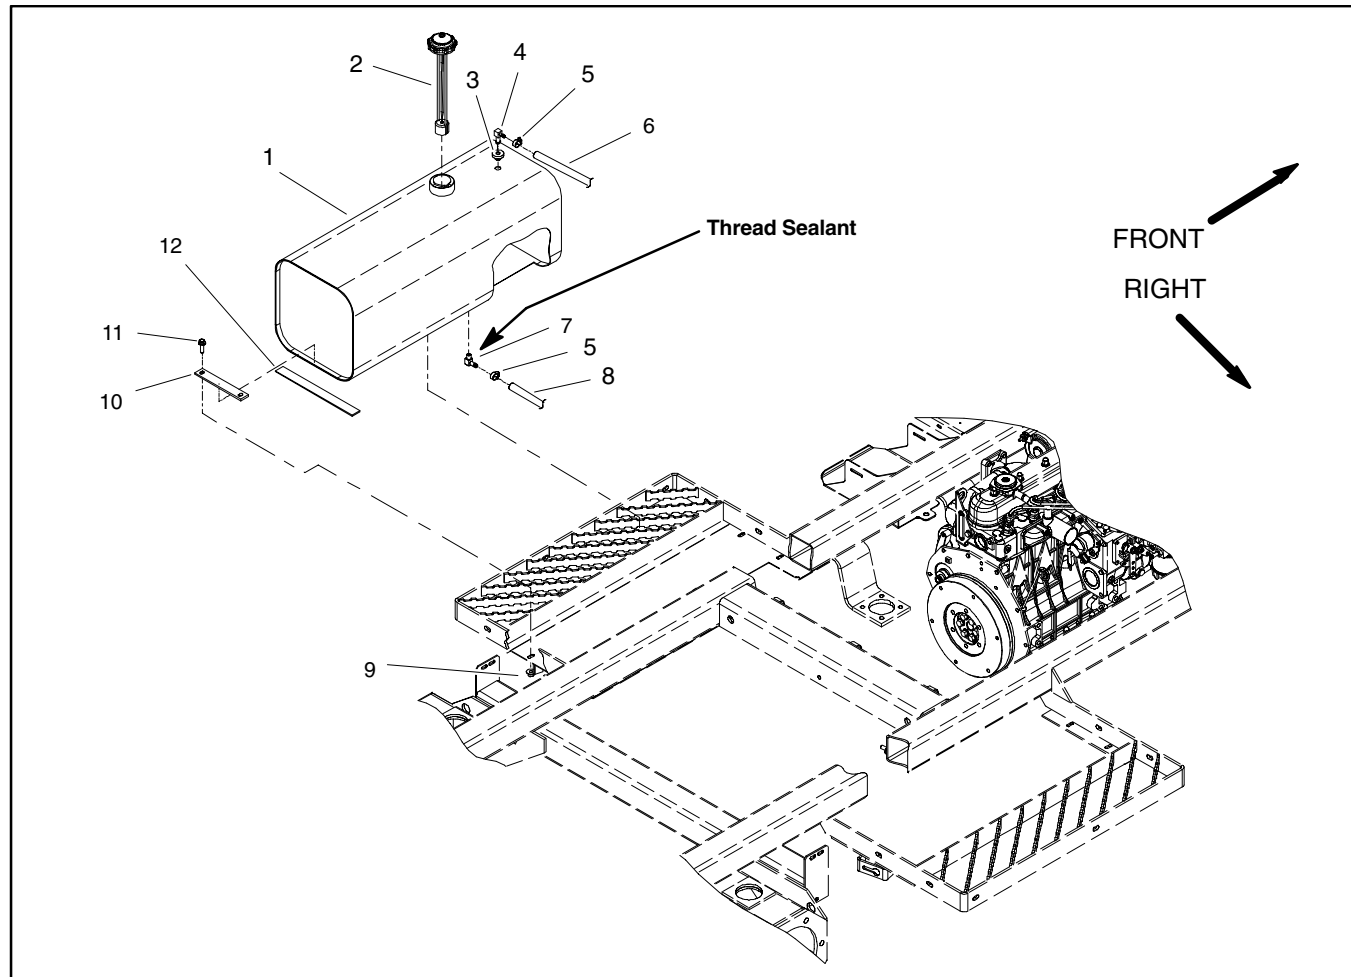

Figure 1
5. Remove fuel tank from machine using Figure 1 as a guide.
1. Install fuel tank to machine using Figure 1 as a guide.